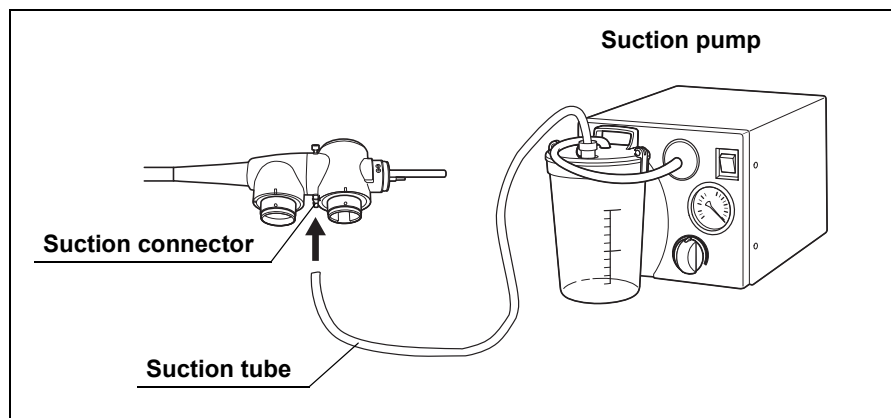

Figure 3.18
11. Connect the suction tube from the suction pump to the suction connector on the endoscope connector (see Figure 3.18).